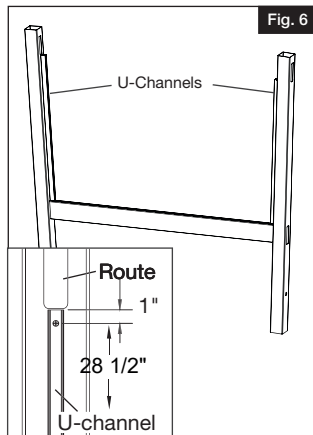

Fig. 6
- Pre-drill 3 holes with a $\frac{1}{16}$ " drill bit, spacing out holes as shown (Fig. 6).